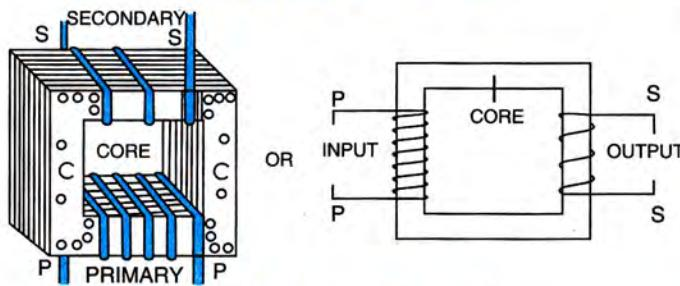

Fig. 10.37 Step down transformer
- (2) **Step down transformer** : The transformer used to change a high alternating voltage to a low alternating voltage (of same frequency) is called a step down transformer ( $E_s < E_p$ ). In a step down transformer, the number of turns in the secondary coil are less than the number of turns in the primary coil ( $N_s < N_p$ ) i.e., turns ratio  $n < 1$  as shown in Fig. 10.37. Since current in secondary coil is more than in the primary coil (i.e.,  $I_s > I_p$ ) so the wire in secondary coil is thicker than in the primary coil.